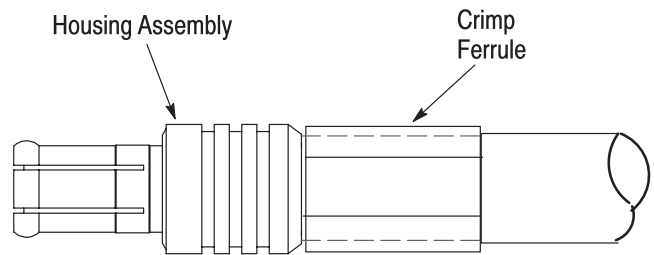

Figure 6
7. The completed crimp should appear as shown in Figure 6.